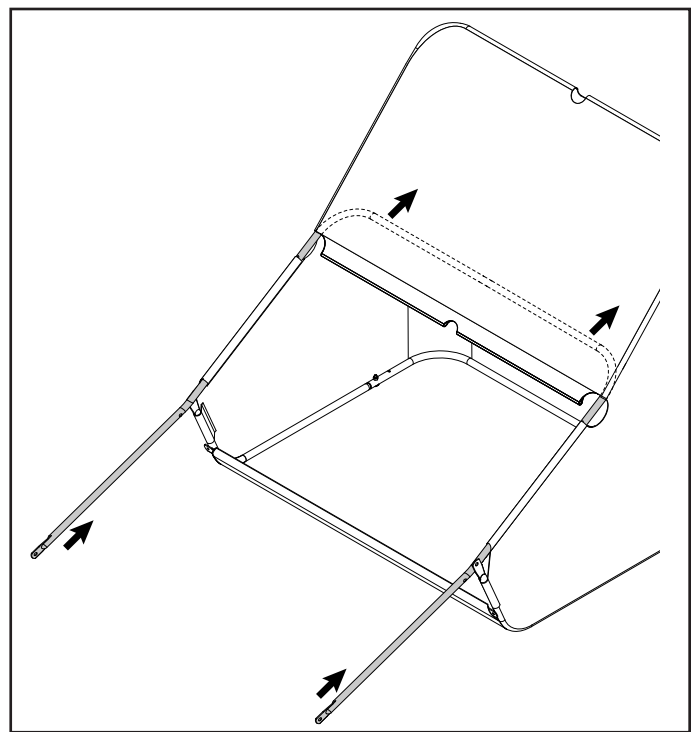

FIGURE 12
20. Slide the assembled tubes back up underneath the wind screen as shown in figure 12.